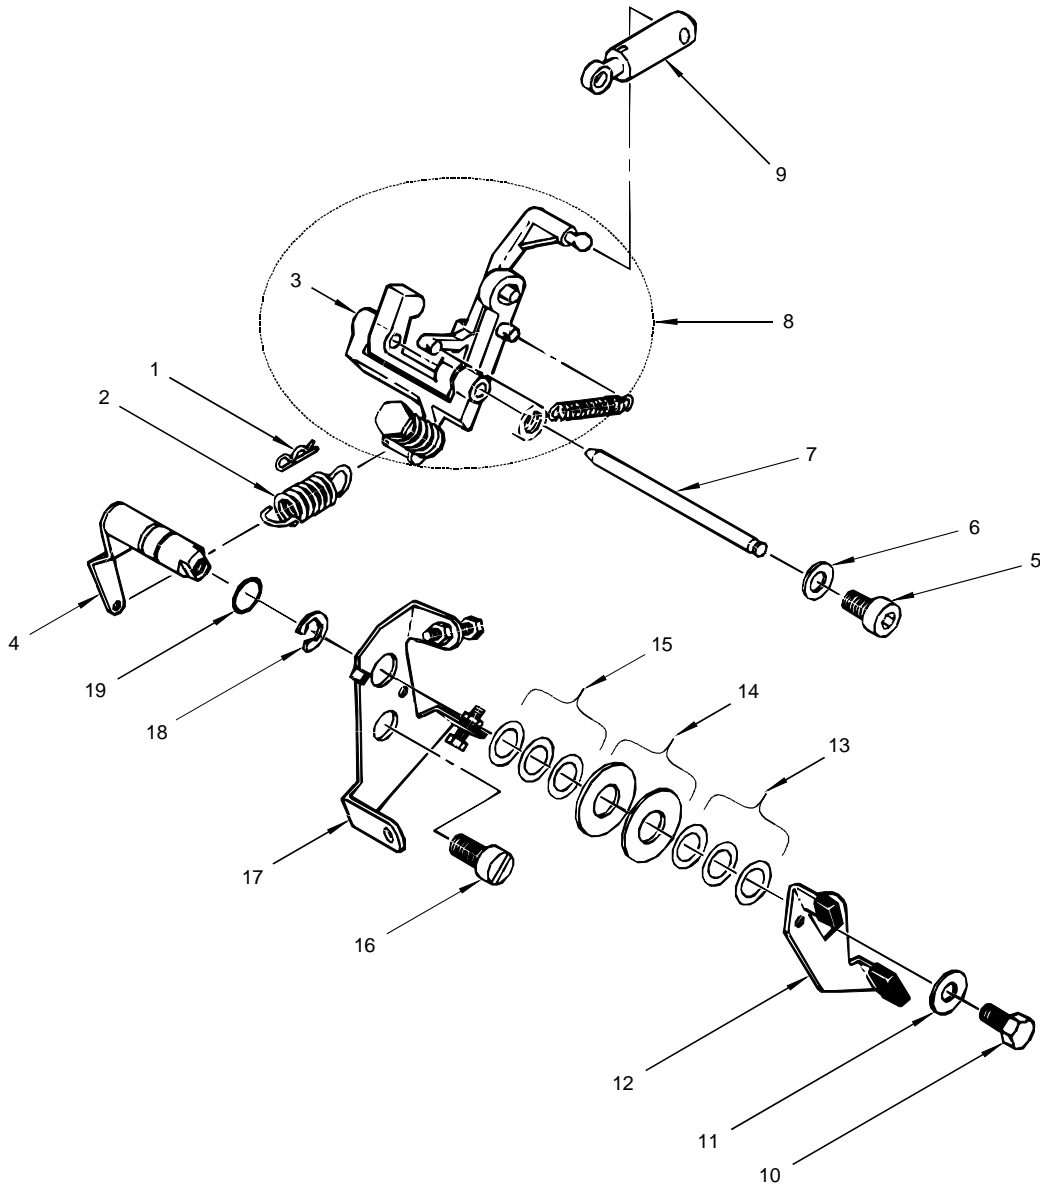

Figure 19. Governor Removal
**REMOVE GOVERNOR ASSEMBLY AND SPEED CONTROL** (Refer to figures 19 and 20.)**INITIAL SET-UP:****Tools:**
Refer to figure 19.